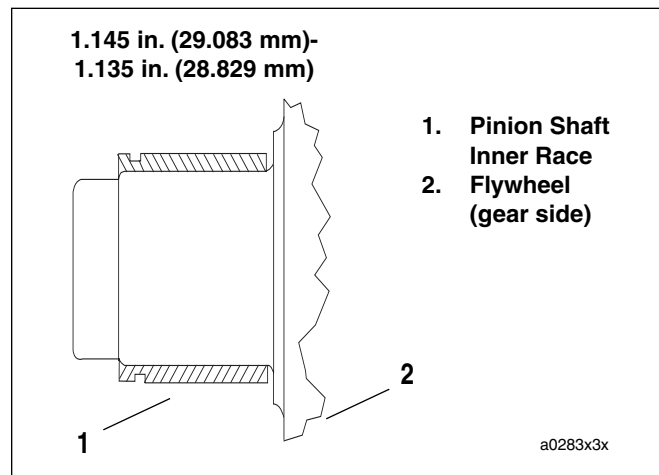

Figure 3-147. Inner Race Location
9. See Figure 3-147. Press **new** inner race on pinion shaft as shown. When the tool bottoms against the flywheel, correct inner race location is automatically established. The finished inner race must meet the specifications in Table 3-34.